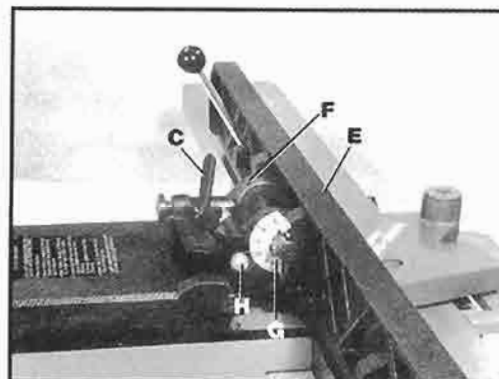

Fig. 21
1. Loosen set screw (F) Fig. 21, in the index collar and loosen the fence locking handle (C).
2. Tilt the fence (E) Fig. 21, until you are certain the fence is 90 degrees to the table surface; tighten lockhandle (C) and set screw (F).
3. Set the angle of tilt scale (G) Fig. 21, to the proper degree mark by loosening screw (H) and adjusting the pointer.